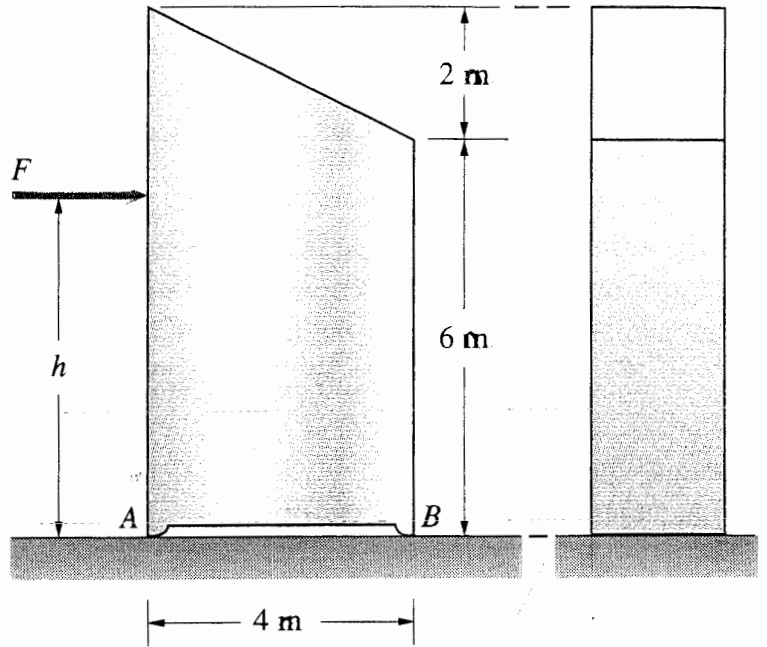

Fig. P4
- 4- The 20-kN object, shown in Fig. P4, is supported at  $A$  and  $B$ . The coefficients of static friction at  $A$  and  $B$  are 0.4 and 0.36, respectively. What is the largest value of  $h$  for which the object will slip before it tips over?